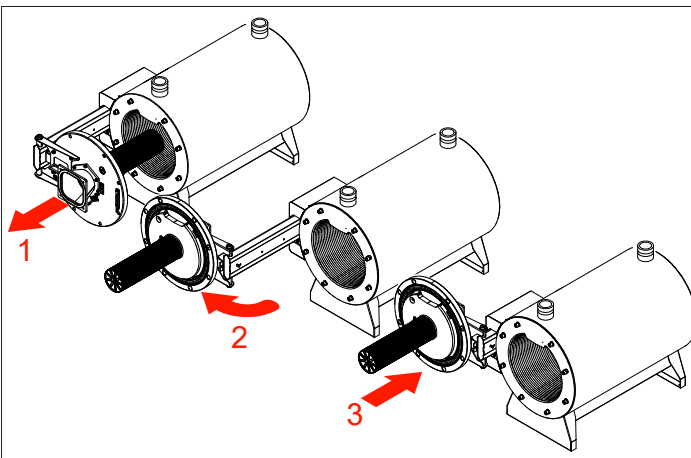

Figure 64 - 1500 - 2000 Model Heat Exchanger Detail - Sliding Out the Combustion Assembly
- iii. For 1500 - 2000 Models: First, remove the five (5) screws attaching the cabinet post to the left side of the VWH cabinet assembly. Then remove the post. Then remove the three (3) screws attaching the air intake assembly. The heat exchanger features a hinged sliding device to ease service. First remove the pin located to the left of the door. This locks the hinge in place. After the pin is removed the door will swing at the hinge, providing better access to the inside of the heat exchanger. **BE CAREFUL NOT TO DAMAGE THE COMBUSTION ASSEMBLY, WHICH IS MOUNTED TO THE DOOR, WHEN OPENING AT THE HINGE.** After the pin is removed: (1) Lift the air intake pipe. (2) Spin air intake pipe while sliding the combustion assembly out. (3) Swing the assembly open to allow access to the combustion chamber. (4) Slide the assembly back toward the heat exchanger and use the removed pin to secure in the open position while performing maintenance. See Figure 64.